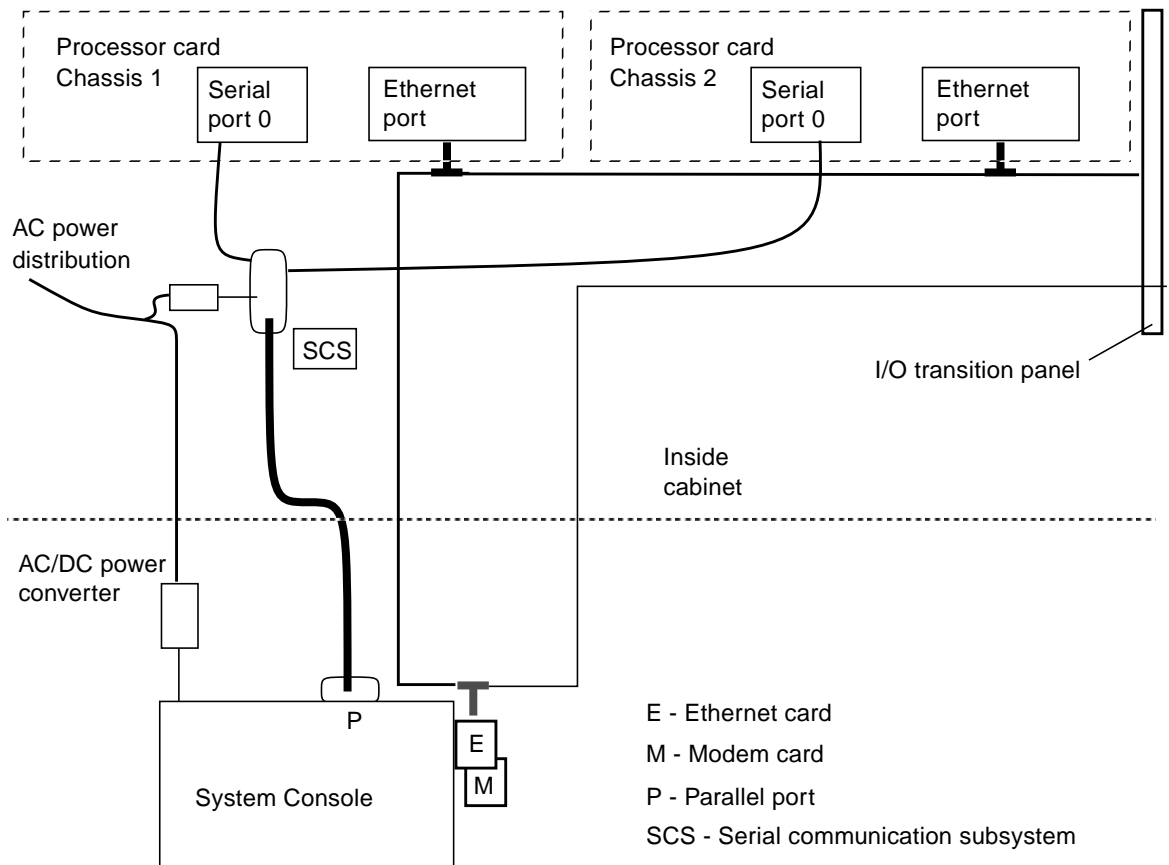
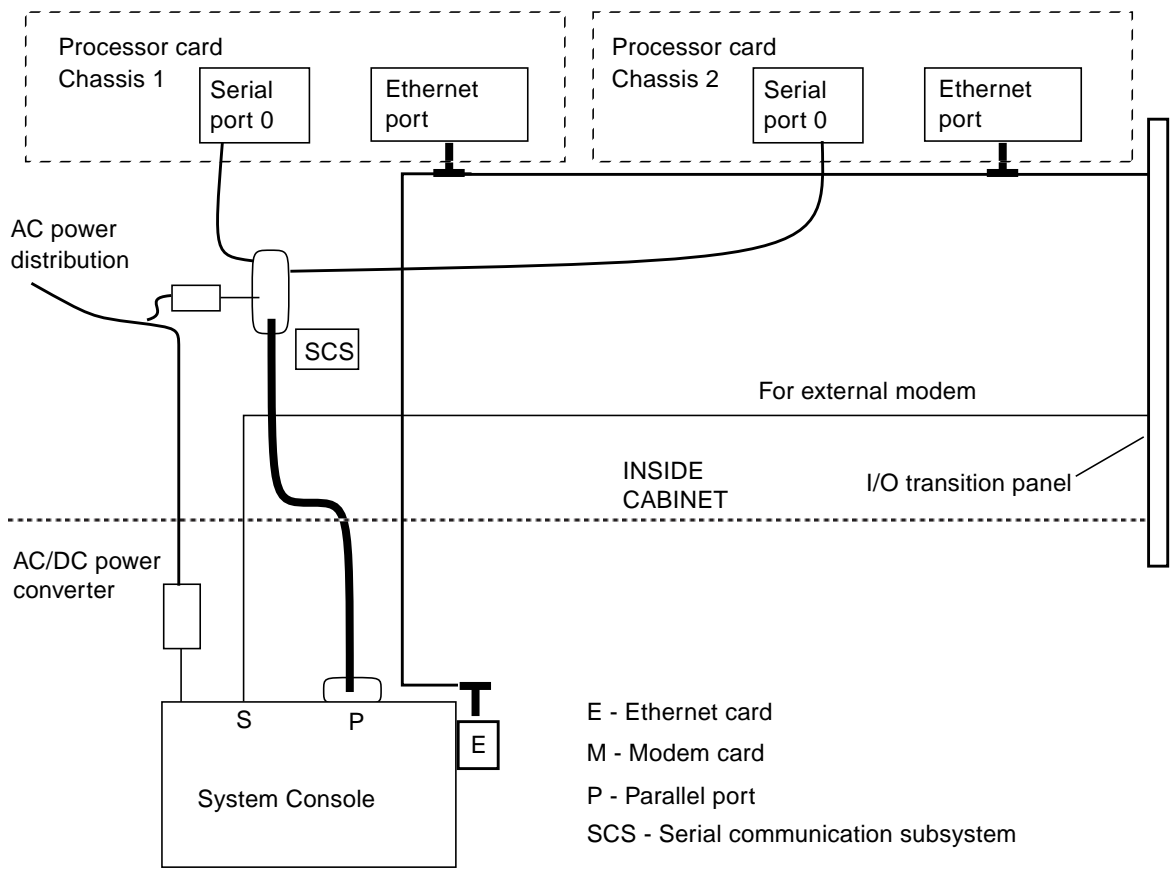

FIGURE 4-9 System Console Connection Block Diagram (Domestic Installation)
FIGURE 4-10 System Console Connection Block Diagram (International Installation)
FIGURE 4-9 and FIGURE 4-10 are System Console connection block diagrams. FIGURE 4-13 shows the serial communications subsystem inside the rear of the cabinet; FIGURE 4-14 is an schematic of internal cable hookup, for reference only. All cables and connections inside the cabinet are pre-installed.
- DB9 serial connector to serial port (international installations; see FIGURE 4-10)